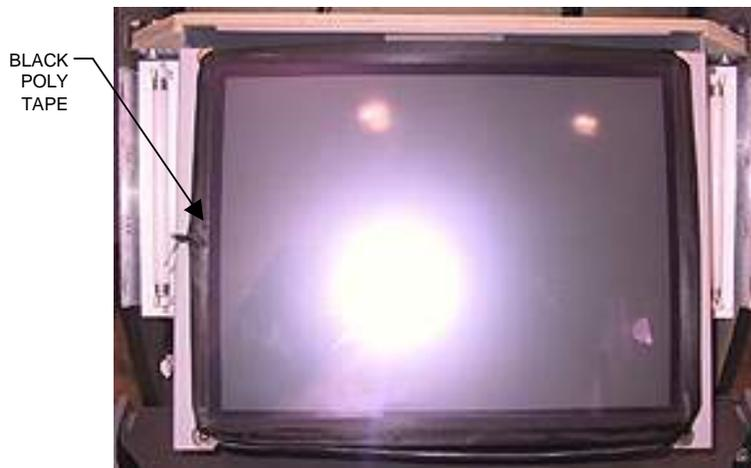

FIGURE 20 - MEGATOUCH COMBO JUKEBOX - MONITOR AND TOUCHSCREEN
5. Remove the black poly tape from around the edges of the old touchscreen (see Figure 20). Remember how the tape was placed in order to tape the new touchscreen.